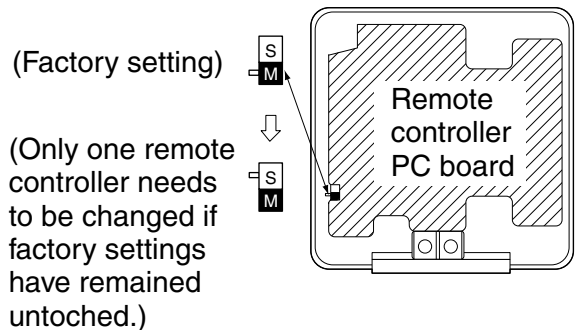

Fig. 27
(2) Turn the **main/sub changeover** switch on one of the two remote controller PC boards to “S”. (Leave the switch of the other remote controller set to “M”.) **(Refer to Fig. 27)**